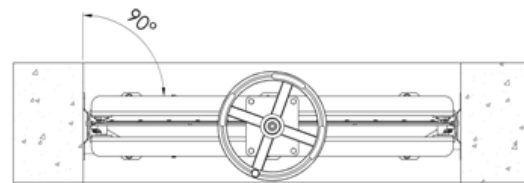

Figure 6
- Position the unit in the existing channel. Make sure that the gate is perfectly aligned and centered in the channel (see Figure 6)